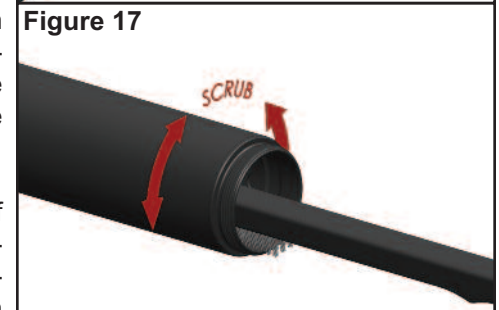

Figure 17
6. Using a plastic bristle brush and solvent, clean the interface in the rear of the silencer. See Figure 17. Insure the piston index notches and piston stop-surfaces located on the front end of the interface are free of carbon buildup. The piston stop-surface and index notches are shown colored red in Figure 18.